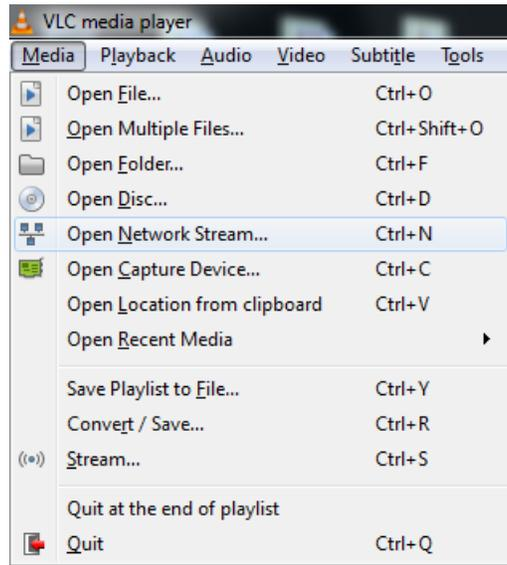

Figure 3-7. Open Network Stream
2. Run VLC and choose Open Network Stream from the Media menu, as shown in Figure 3-7.